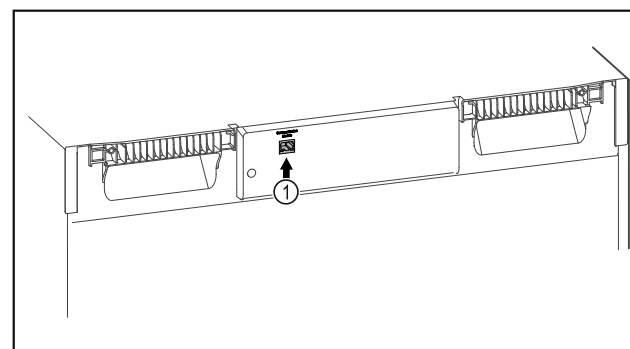

Fig. 96
- ☐ SmartModule Fig. 96 (1) is in use.